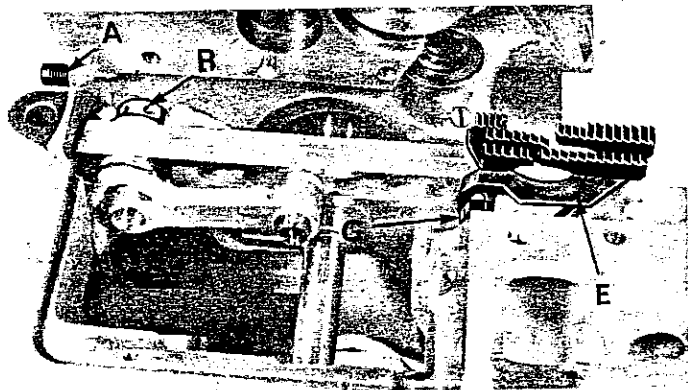

fig.13
- Mount the front differential feed dog E with screw G but do not tighten it up fully (fig. 13).